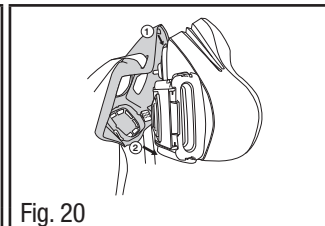

Fig. 20
3. Replace head harness assembly by positioning the ledge on the head harness assembly into the notch at the top of the facepiece (Fig. 20, #1).
4. Press the bottom of the head harness assembly into the facepiece (Fig. 20, #2). When properly engaged, an audible snap should be heard.